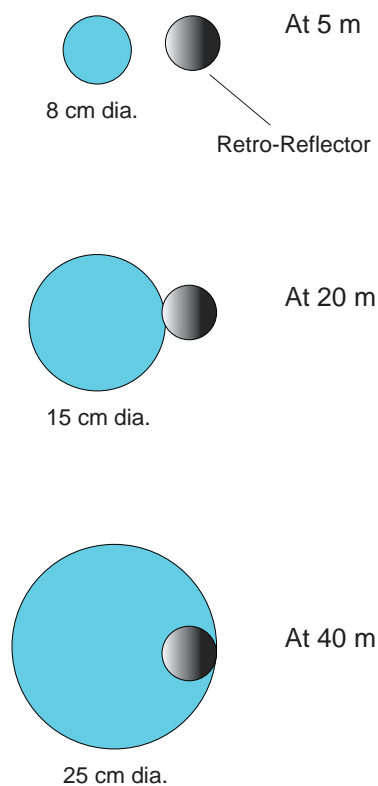

Figure 9: Using Retro-Reflectors with Laser Beam
- ◆ Move the target off-axis so that the beam spot strikes only the edges of the retro-reflectors (Figure 9).